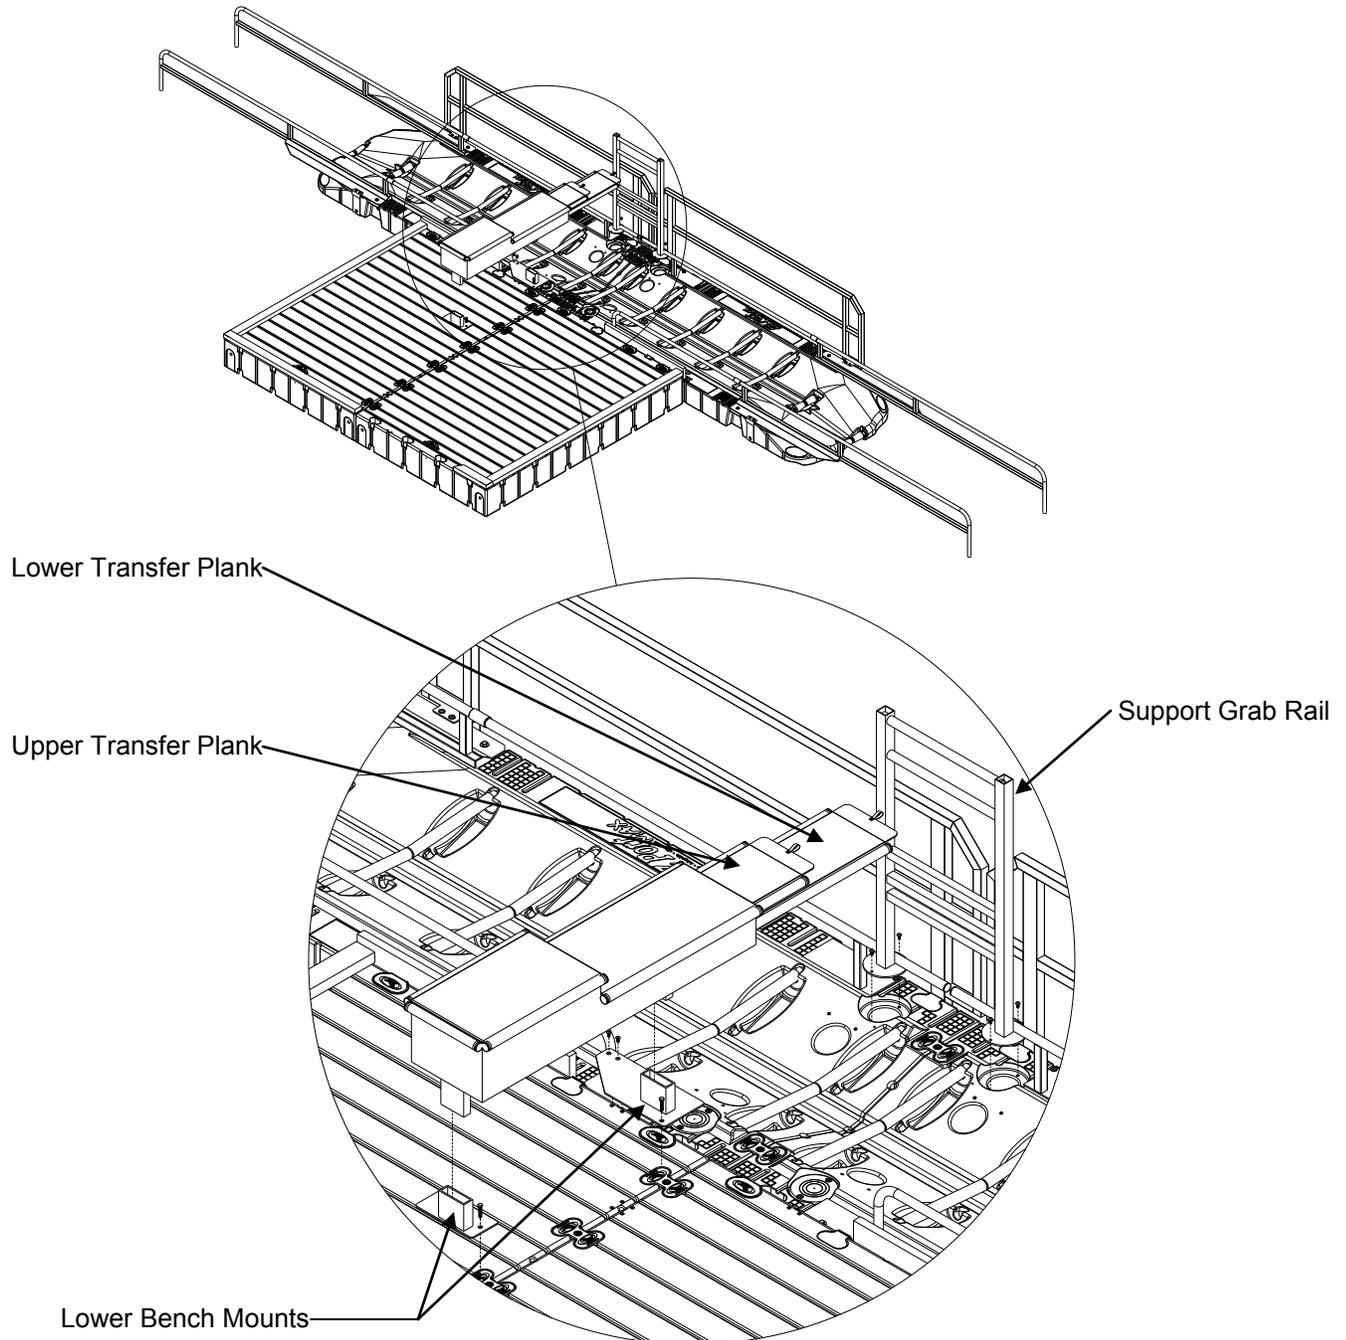
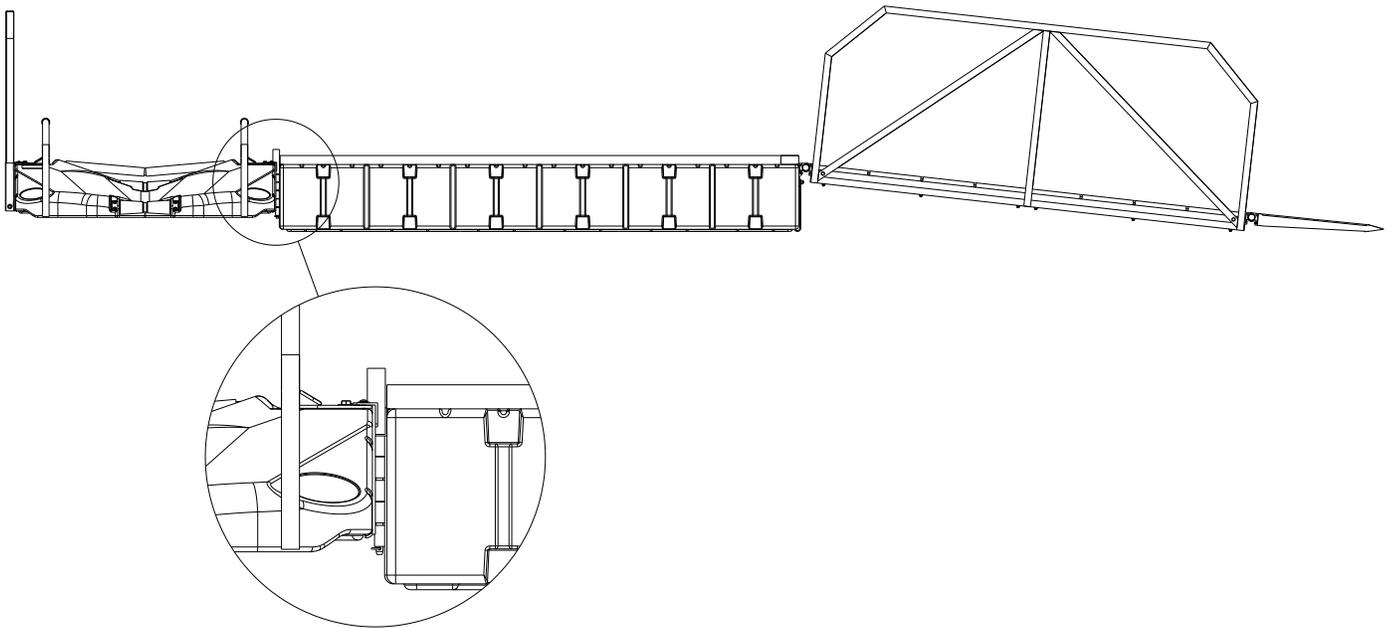

Figure 14
Figure 20
Note: Typical installation of EZ Launch to EZ Dock yields a step down from the EZ Dock to the Port Launch as shown in Figure 14. The 100757SS kit includes two hinge bracket for connection points on two separate dock pockets. This kit attaches the EZ Launch to EZ Dock product. Refer to Port MAX owner's manual for in-line configuration assembly steps.
Note: Typical installation of the EZ Launch to EZ Dock yields a step down from the EZ Dock to the EZ Launch as shown in Figure 14. Ballasting EZ Dock dock sections will allow for a flush walking surface with the EZ Launch, see Figure 20. The 100757SS kit includes two hinge bracket for connection points on two separate dock pockets. This kit attaches will attach the EZ Launch to a ballasted EZ Dock product. Refer to Port MAX owner's manual for in-line configuration assembly steps.
- Align hinge tabs with the shorter hook hinge tabs above the longer hook hinge tabs then insert pin through hinge and secure in place using clips provided as shown in Figure 20.
The hinge dock adapter plate (Item 5) may be installed with the hinge point on the top as shown in (Figure 20). All other installation is the same as on previous page.